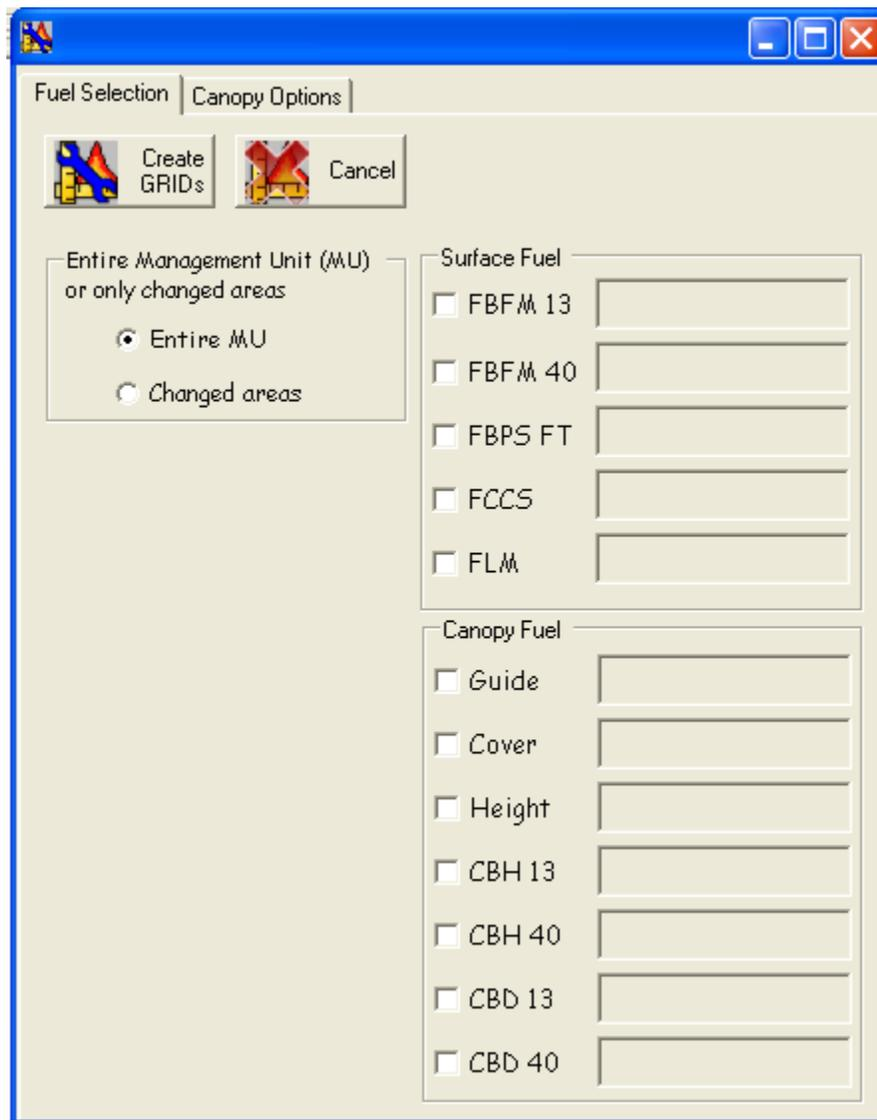

Figure 7-37. Fuel and canopy option selection box with **Fuel Selection** screen visible.
The following dialog box with the **Fuel Selection** tab visible will open (fig. 7-37).
- Check “**Also use rule values that are not 9999**” or change the Canopy Cover (CC) and/or Canopy Height (CH) by checking the “**Multiply by**” box and entering desired values.
- When finished with both **Fuel Selection** and **Canopy Options** tabs, make sure the **Fuel Selection** page is open and click the **Create GRIDs** button at the upper right (fig. 7-37).